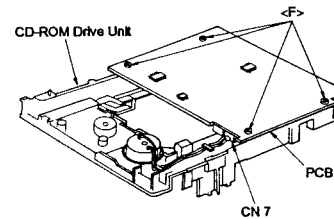

Figure 25
- (3) Turn the CD-ROM Drive Unit as shown in Figure 25.
- (4) Secure the PCB with four screws <F> (2.6 × 8 mm) as shown in Figure 25.
- (5) Connect the connector (CN 7) as shown in Figure 25.